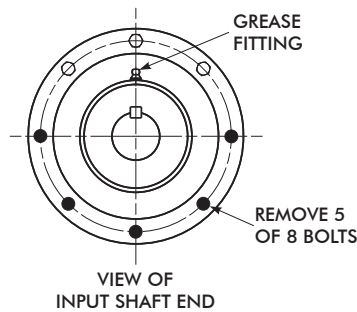

FIGURE 1
1. **MSCP1 & MSCP2** - Remove 5 bolts from input shaft side as shown in Figure 1.